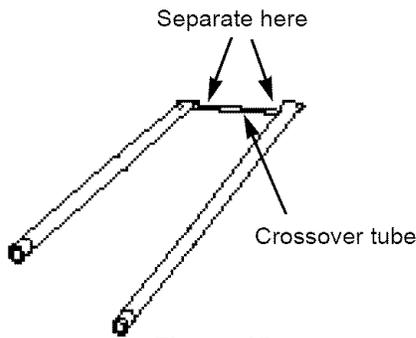

Figure 15
12. Lift and twist the burner assembly slightly to separate the crossover tube from the burners. Remove the burners from the cooking box. Figure 15.